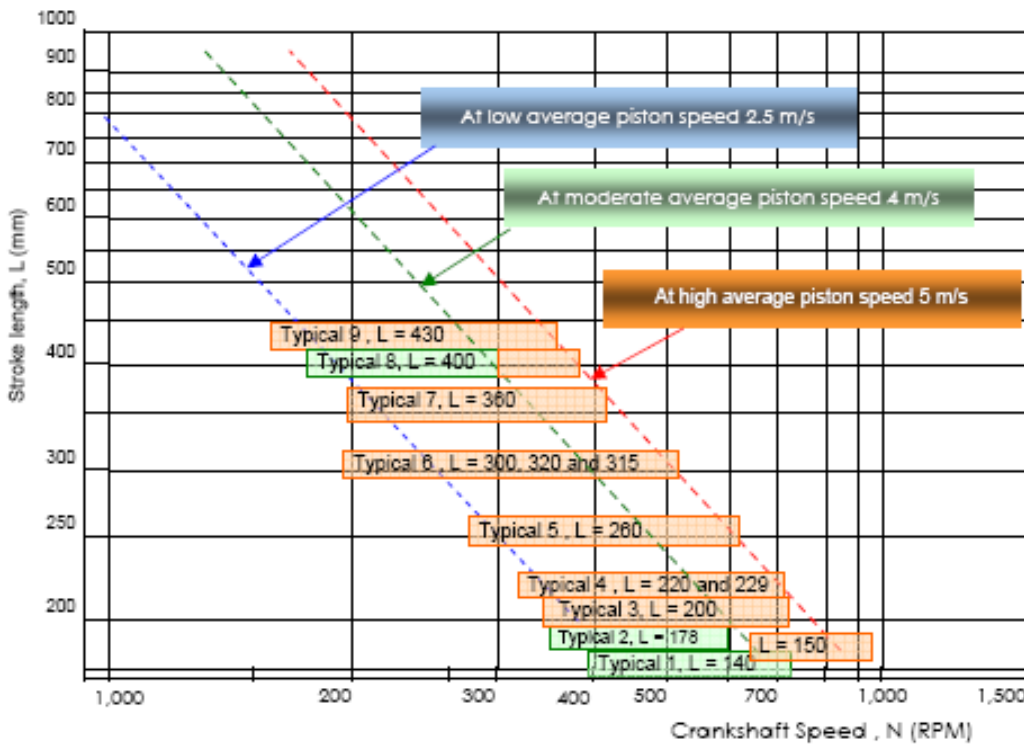

Figure A.1. Typical Stroke Length for Reciprocating Compressor
In this article, **maximum piston speed is defined at 6 m/s**. Figure A.1 shows relation between  $N$  (RPM), stroke length  $L$  (mm) at several average piston speed,  $U$  based on equation (12). When there is no data for frame BHP, **maximum frame BHP is defined at 0.11 Qp1. z kW**, where **Qp1** is piston displacement capacity for each stroke in **m3/hr (4.721.10-8.D2.L.N** where  $D$  is maximum diameter in mm,  $L$  in mm and  $N$  in RPM) and  $z$  is number of throw.
$Z$  determined by gas compressibility chart using reduction temperature ( $T_{red}$ ) and pressure ( $p_{red}$ ) as the variables.  $T_{red} = T/T_{cr}$  and  $p_{red} = p/p_{cr}$ . See following figure A.1
Z factor determined using figure A.1 and A.2.